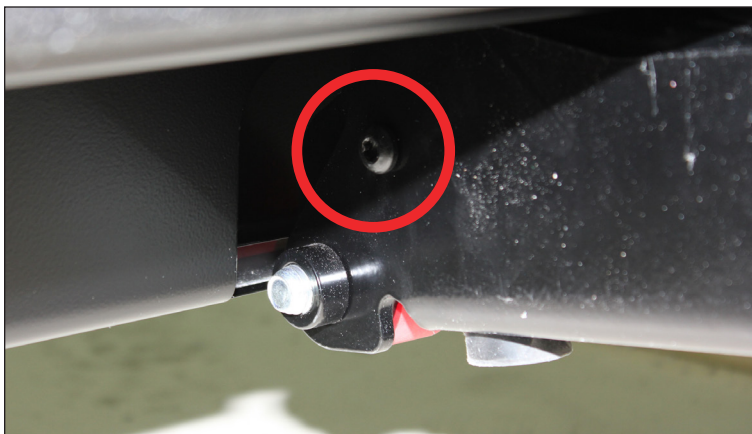

Figure 11: Reinstall Torx Screws
9. Use a T30 Torx bit to reinstall both 1/4" Torx screws. Refer to **Figure 11**. These bolts act as stops to prevent the front face of the table from tilting forward more than 90°.